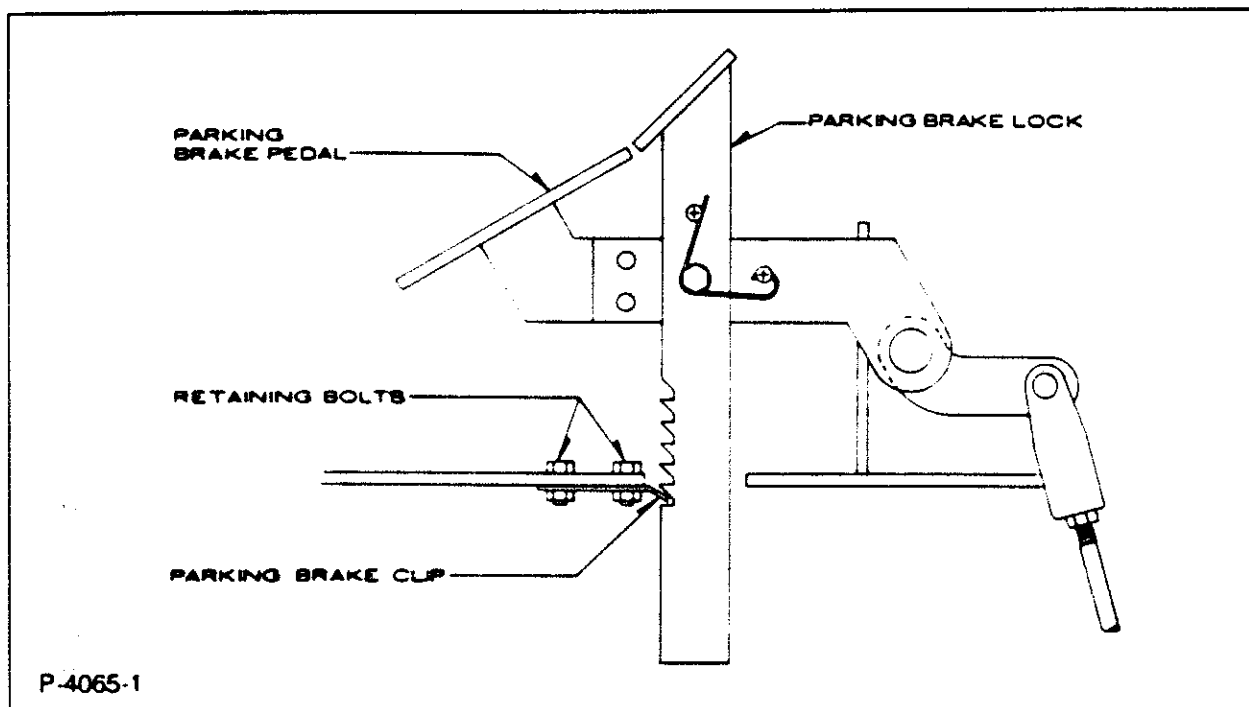

Figure 9
1. Put foot pressure on the parking brake plate to set the brakes. See Figure 9.
2. Put foot pressure on the parking brake lock arm plate to lock the brakes. See Figure 9.
3. Put foot pressure on the parking brake plate to unlock the brakes. See Figure 9.